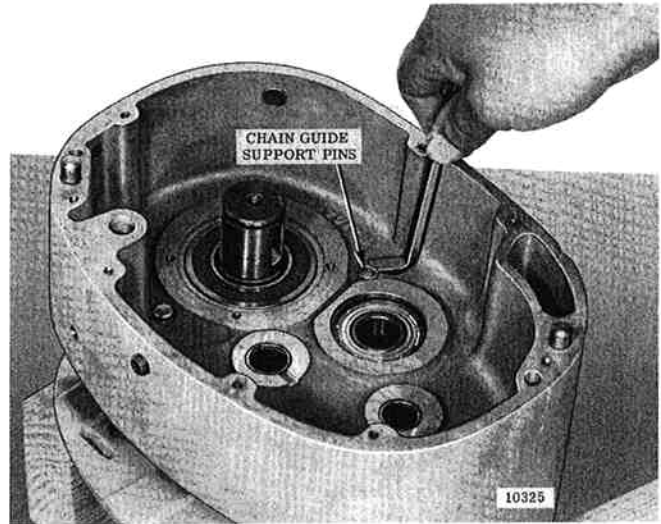

Figure 7-13. Removing Chain Guide Support Pins Using Pry Bar.
(3) Using suitable pry bar (fig. 7-13) partially raise two chain guide support pins from their bores in frame. Pull them the rest of the way out using pliers with jaws protected to avoid damaging pins. Remove and discard two "O" ring gaskets from grooves on each support pin.